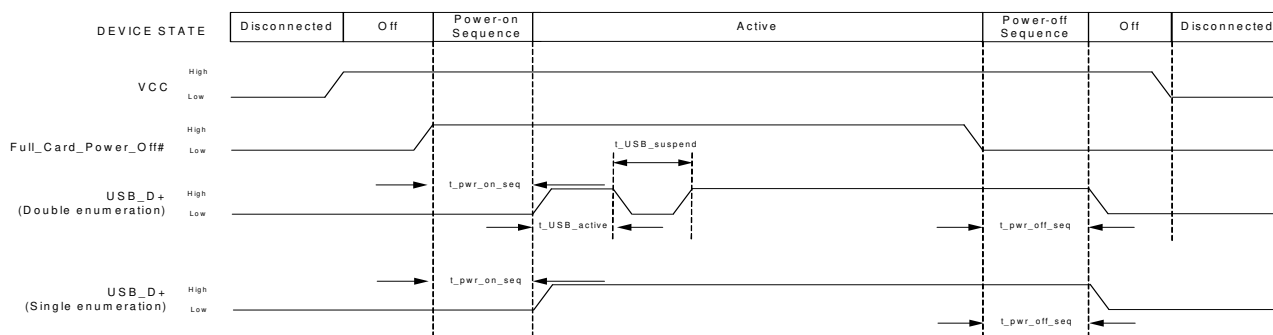

Figure 5-2: Signal timing (Full_Card_Power_Off#, and USB enumeration)
Figure 5-2 describes the timing sequence for powering the module on and off.
- Double enumeration—As shown in Figure 5-2: